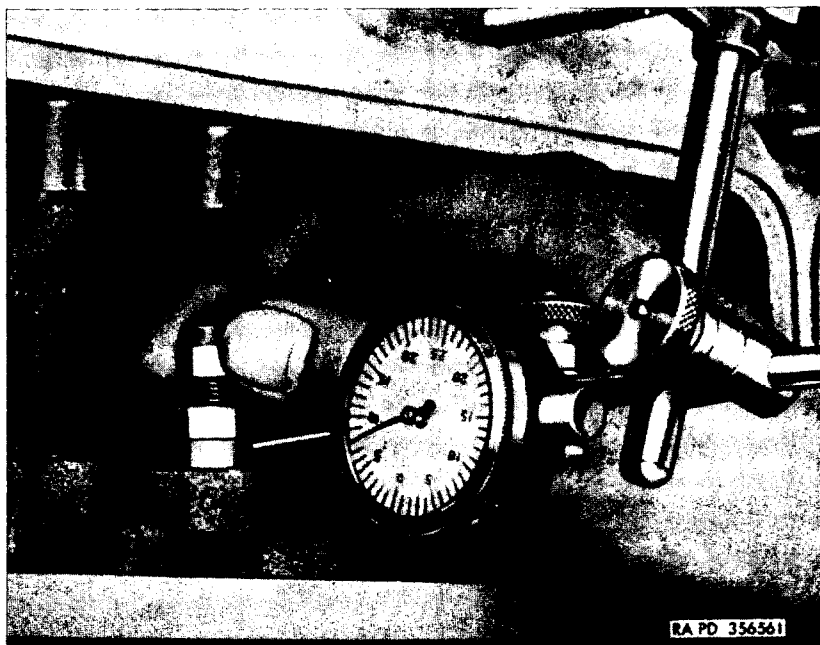
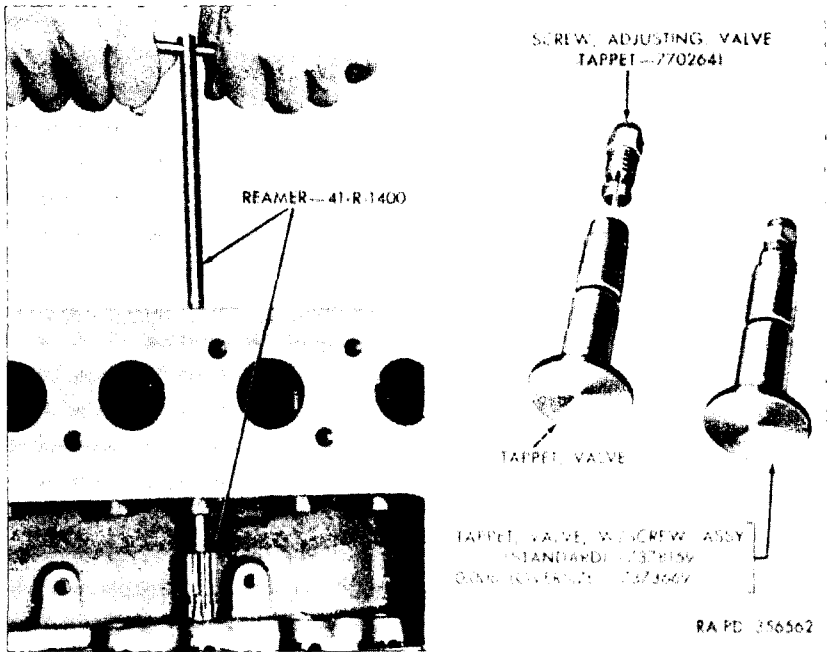

Figure 68. Checking valve tappet clearance.
Figure 69. Reaming cylinder block for oversize tappet.
h. Check Valve Tappets. Valve tappet clearance (fig. 68) in the cylinder block can be checked by placing a dial gage against the valve tappet head and moving the tappet back and forth. The gage reading will indicate the actual clearance, which should not exceed limits given in repair and rebuild standards (par. 67). If in excess of the above, replace with an oversize valve tappet. Before installing an oversize tappet, ream the tappet guide with reamer 41-R-1400 (fig. 69) to allow 0.0000 to 0.001-inch clearance for the tappet.